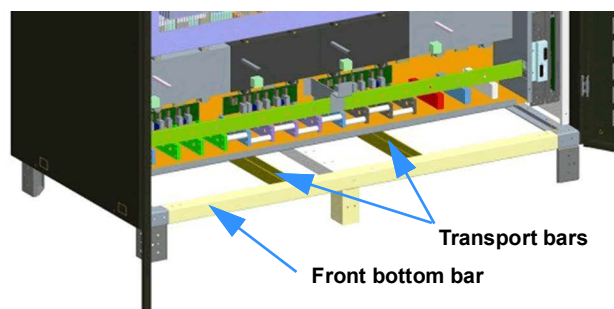

Figure 3.12
2. After the UPS cabinet has been moved to its final position, remove and discard the two transport bars – shown in Figure 3.12.